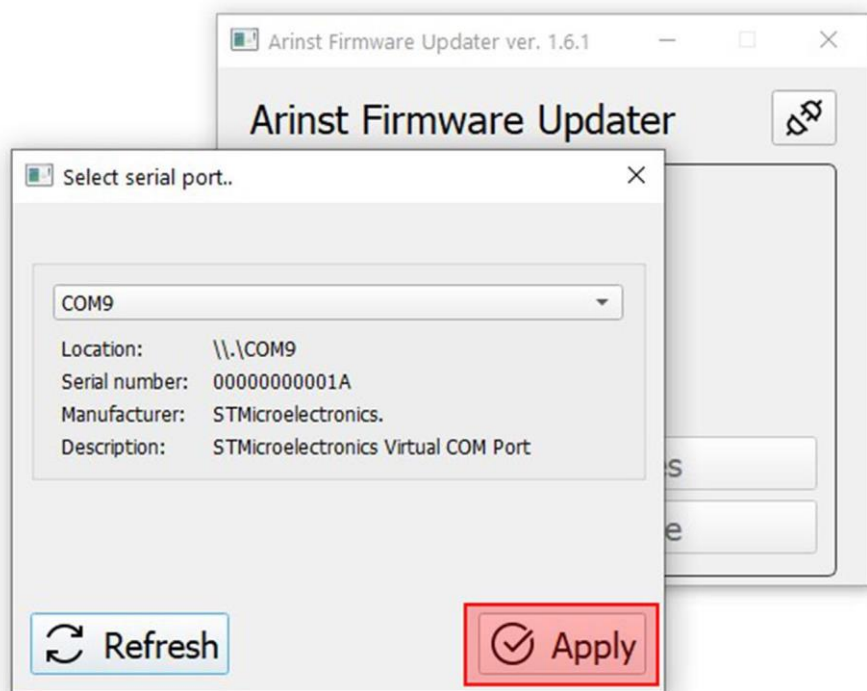

Figure A2.4 - Connection of the loader application to the device
2.6. After selecting the port, make the connection by clicking the **Apply** button (Figure A2.4).